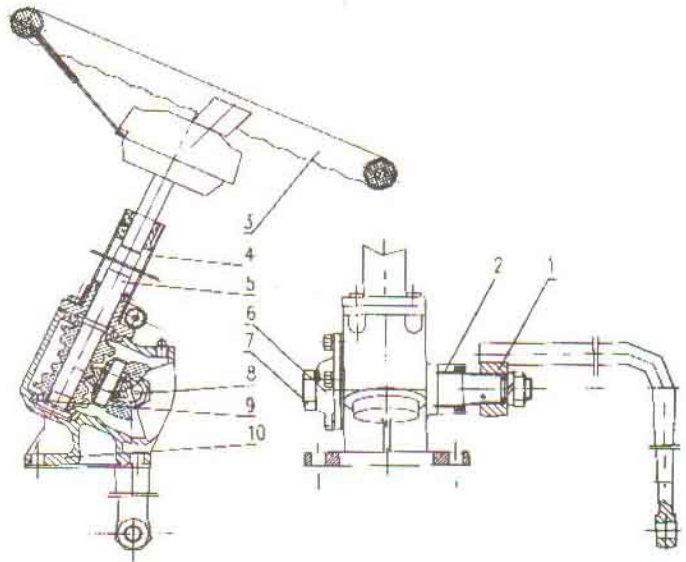

Figure 4.3.6.1 Steering gear assembly
1、Construction: steering gear is cone-worm and roller type and is fastened on the gearbox housing by four bolts. The included angle between steering shaft and longitudinal axis of tractor is 65° . Its construction is showed in figure 4.3.6.1. Steering shaft with worm assembly is installed in steering gear housing and is supported on No.977907 bearing that is installed on the steering gear housing. Steering rocker arm shaft with accessory liner bushing assembly is installed in steering gear housing. And its left end is supported on the liner busing and its right end is supported on the 205 bearing of steering gear cover that is installed on the steering gear housing. So roller wheel installed on the steering rocker arm shaft (bearing 776701) is engaged with worm.